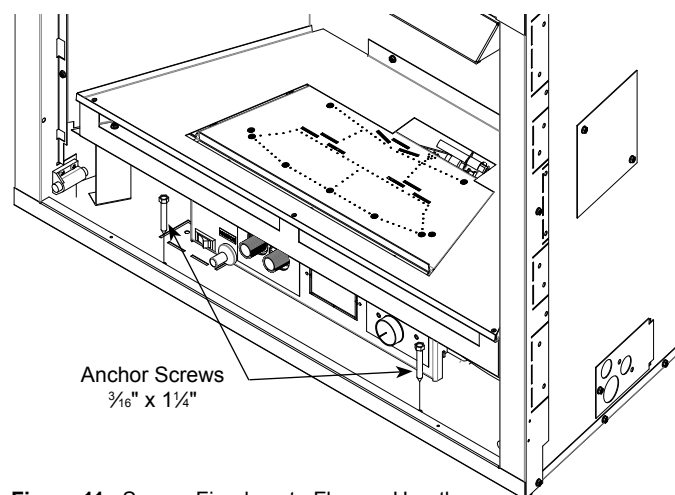

Figure 11. Secure Fireplace to Floor or Hearth
2. Secure the firebox with two anchoring screws ( $\frac{3}{16}$ " x  $1\frac{1}{4}$ " length) supplied with the fireplace system. Figure 11.